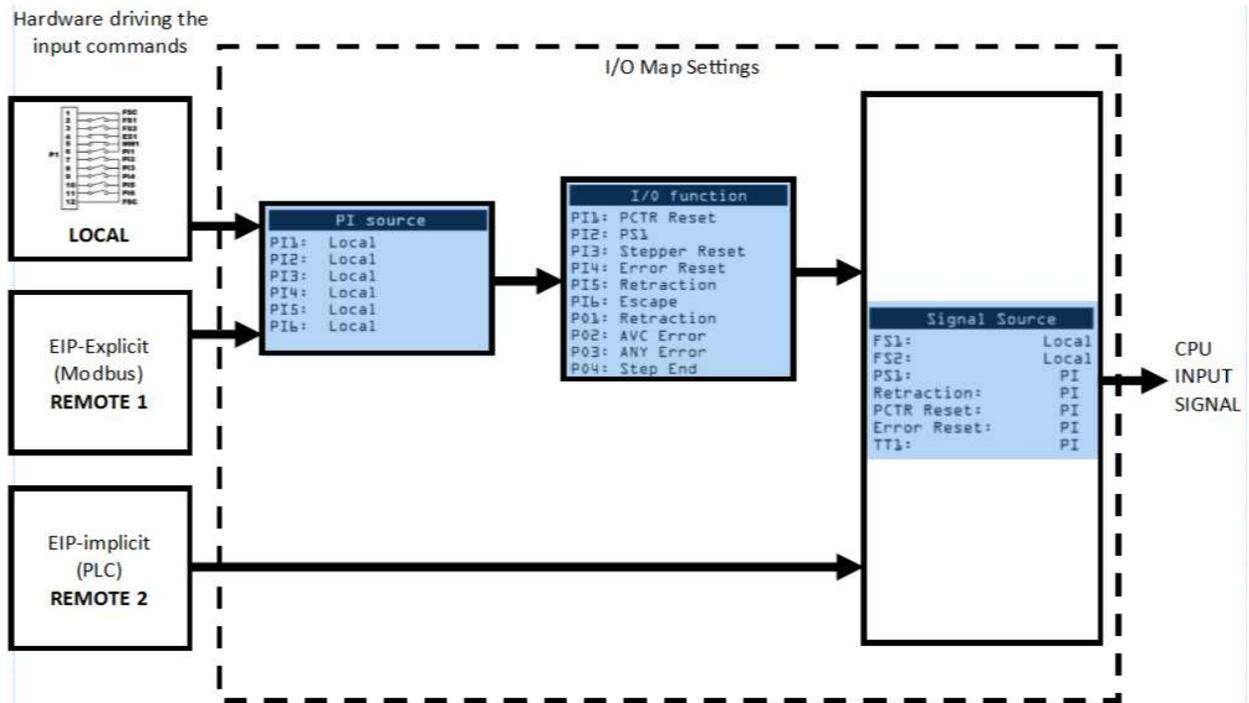

Figure 1 Input Block Diagram
1.5. There are three ways to configure communication to the EN6001 as shown in Figure 1. Configuration may be performed in EnLink6001 as shown below, or through the keypad on the control.